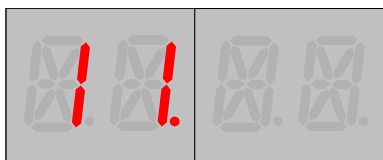

Figure 8a: Navigate to desired SV.
1. Navigate to the desired SV with UP and DOWN. See **Figure 8a**.